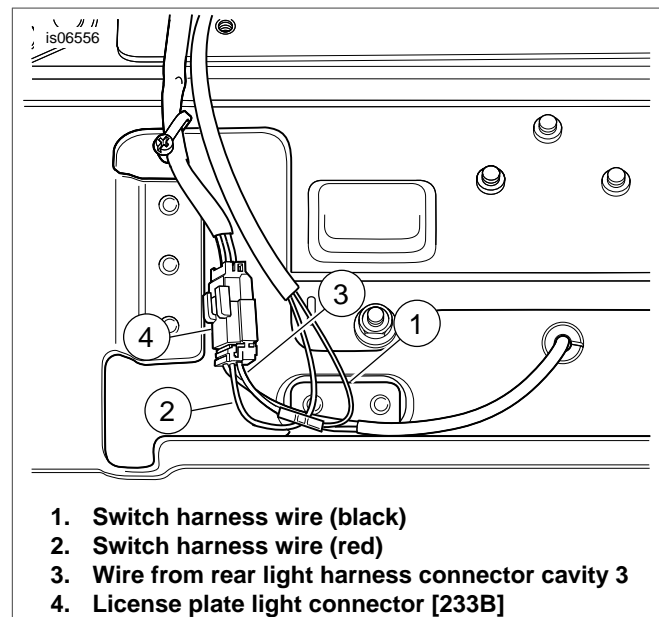

Figure 4. License Light Connector (2010 Models)
- b. See Figure 4. Unplug the license plate light connector [233B] (4) from the rear lighting harness connector [233A].